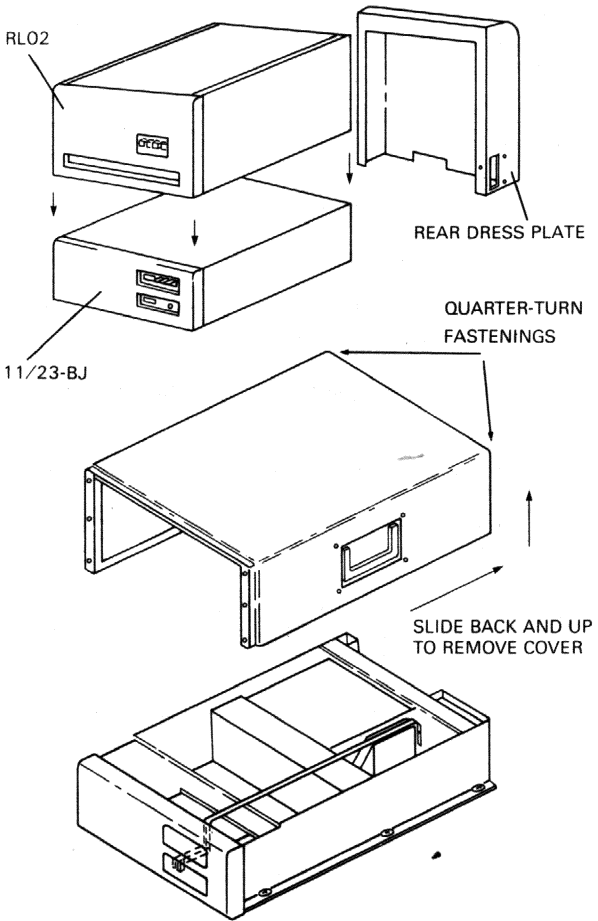

Figure 2 Gaining Access to an FRU
5. Undo the two quarter-turn fastenings which are situated at the two top rear corners of the top cover. Hold the handler and slide back the cover. Then lift the cover up and remove it (see Figure 2).